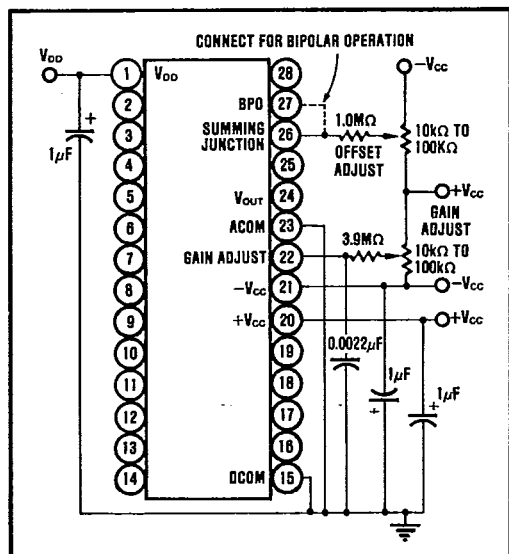
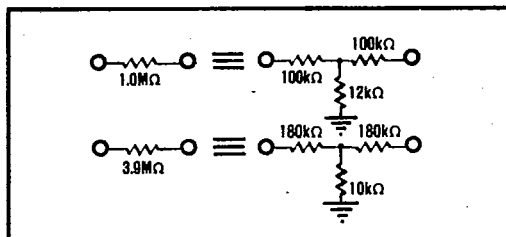

FIGURE 5. Power Supply, Gain, and Offset Potentiometer Connections.
FIGURE 6. Equivalent Resistances.
**Decoupling:** For optimum performance and noise rejection, power supply decoupling capacitors should be added as shown in the Connection Diagram, Figure 5.
Offset and Gain may be trimmed by installing external Offset and Gain potentiometers. Connect these potentiometers as shown in Figure 5. TCR of the potentiometers should be  $100 \text{ ppm}/^\circ\text{C}$  or less. The  $1.0M\Omega$  and  $3.9M\Omega$  resistors (20% carbon or better) should be located close to the DAC811 to prevent noise pickup. If it is not convenient to use these high value resistors, an equivalent "T" network, as shown in Figure 6, may be substituted in each case. The Gain Adjust (pin 22) is a high impedance point and a  $0.001\mu F$  to  $0.01\mu F$  ceramic capacitor should be connected from this pin to Analog Common to reduce noise pickup in all applications, including those not employing external gain adjustment.